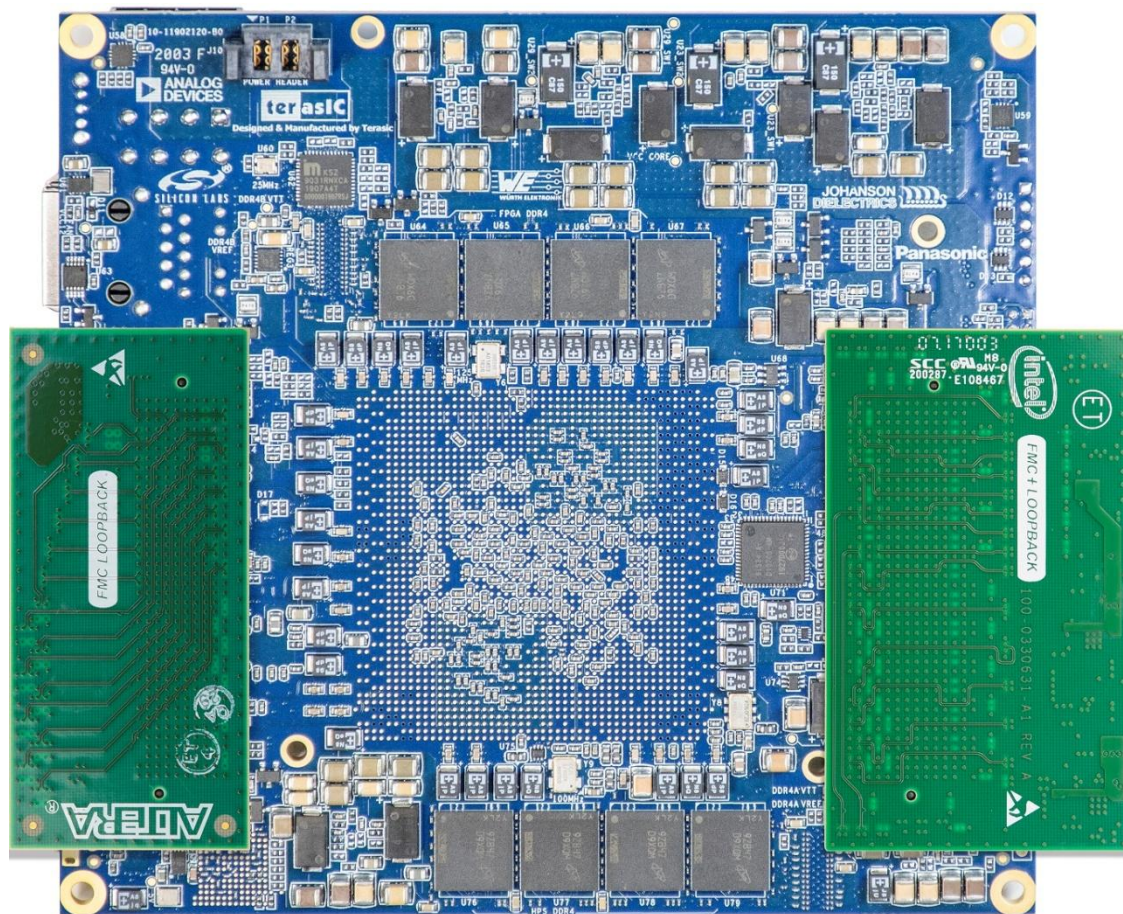

Figure 5-3 Test code setup
User need to plug the FMC+ and FMC loopback card to the Apollo S10 board as shown in the **Figure 5-3**.
3. Plug-in the FMC and FMC+ loopback Card on the FMC/FMC+ connector of the Apollo S10 Module as shown in **Figure 5-3**.